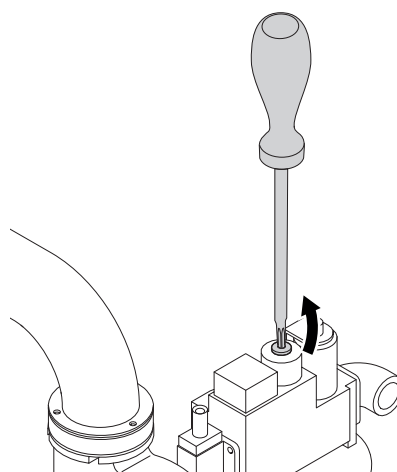

Fig. 11.h
- adjust the screw (A - Fig. 11.c) and check that the CO and CO₂ values correspond to those in the emissions table;